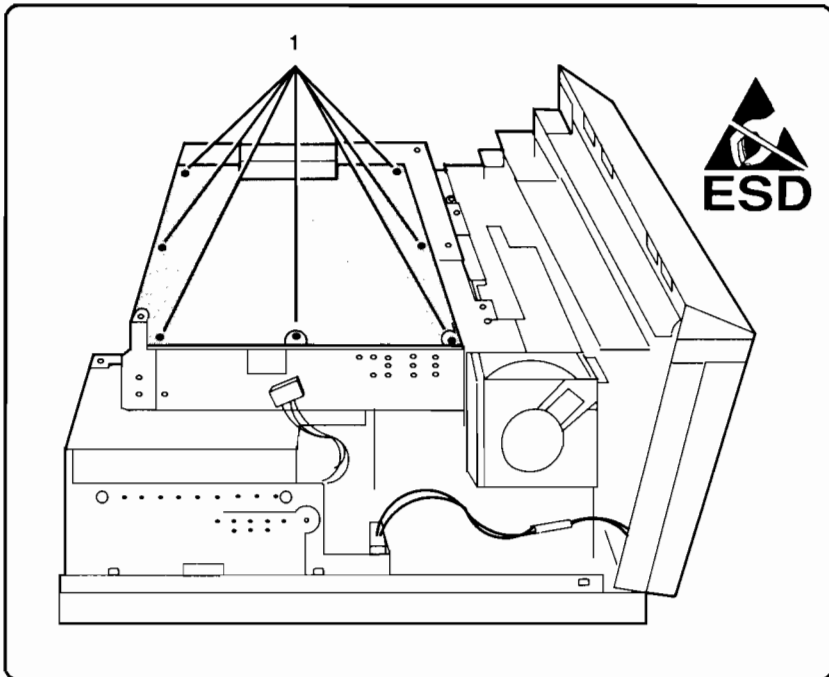

Figure 6-25. Formatter PCA Removal
6. Remove the screws (7) securing the Formatter PCA to the Intermediate PCA Shield, then lift straight up to remove the PCA (see Figure 6-25, callout 1).